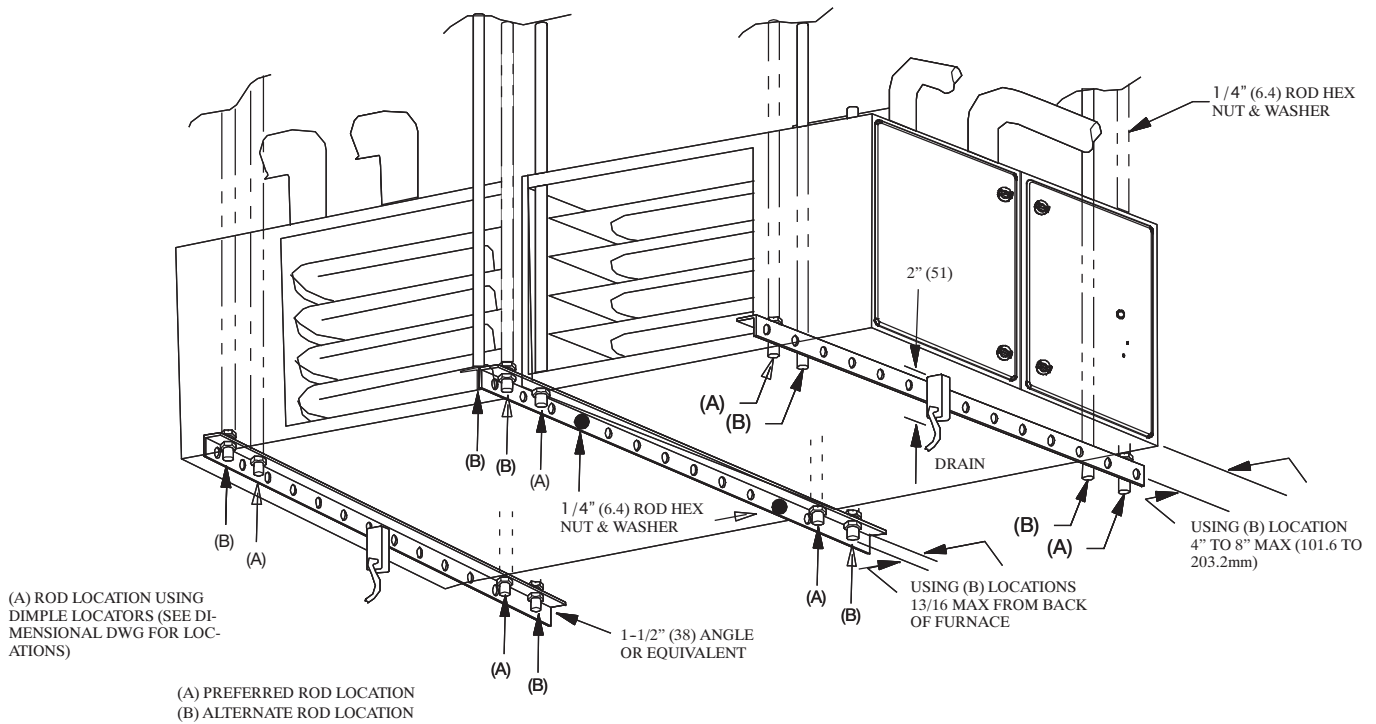

Fig. 9 - Suspended Installation of Furnace
4. Drill four 5/16-in. (8 mm) holes through the angle iron and through each side of the casing for the suspension rods as shown in Fig. 9.
1. Furnaces may be suspended using two (2) pieces of 1-1/2-in. x 1-1/2-in. x 1/4-in. (38 mm x 38 mm x 6 mm) thick cold rolled angle iron underneath each furnace and four (4) 3/8-in. (10 mm) diameter threaded rods. Angle iron must be positioned as shown in Fig. 9.
3. Each piece of angle iron must be secured to the bottom of each furnace with at least two (2) #8 x 3/4-in. (19 mm) sheet metal screws.